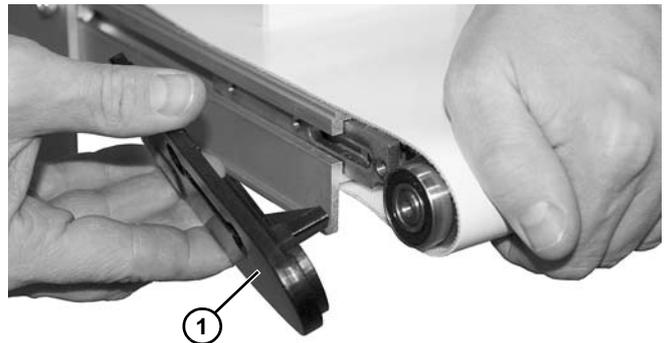

Figure 63
3. Remove the headplate (Figure 63, item 1) from the conveyor frame, holding spindle in place.